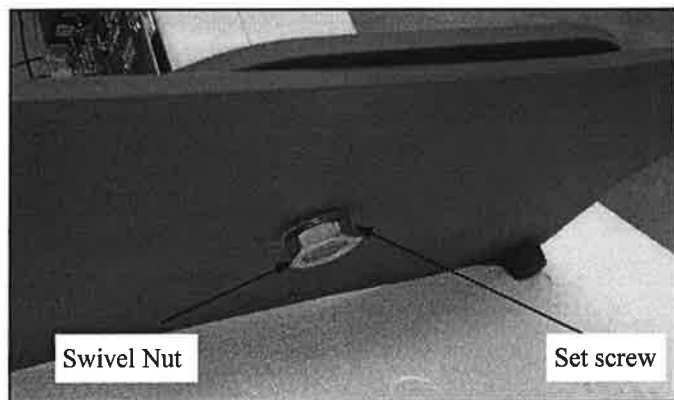

Figure 6
- 7) For swivel base models, tip the base plate to the left or right side to expose the large swivel nut, figure 6. Loosen the 1/8" set screw, which locks the swivel nut travel, figure 6. Hold the lifting column so it does not turn, and with a large adjustable wrench or large pipe wrench, rotate the nut counterclockwise. Tip the column upside down with the base plate up. Remove the thrust bearing pack under the nut and while supporting the lifting column, carefully lift the base plate off of the swivel plate and lifting column. Remove the (4) exposed 10mm x 40mm flat head screws with a 6mm metric allen head wrench or impact driver. As the last screw is removed, again support the lifting column. Note, the column orientation on the swivel plate before removal.
- 8) Remove the (4) large phillips head screws from each end of the new replacement lifting column. **NOTE: These are shipping containment screws placed in the column to avoid shipping damage and must be replaced into the original lifting column, BEFORE returning it to the factory for repair/credit..**
- 9) Position the replacement column in the same orientation as the old column and replace the (4) 10mm x 40mm flat head bolts. Tighten all flat head bolts to 20 foot pounds of torque. Tip the base plate upright on the floor and replace all components in the reverse order.
- 10) Return the original lifting column with the (4) large phillips head screws in place on both ends of the column and repack it in the original shipping container.